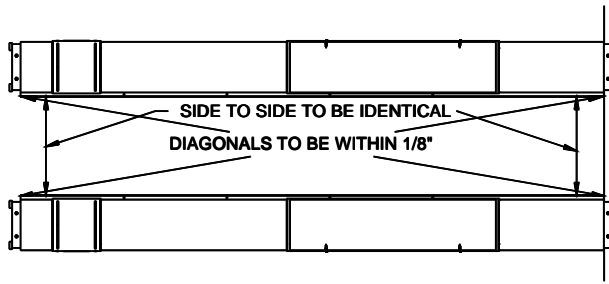

Fig 6 – Final Runway Positioning
- 9) Check the layout of the lift in the bay. **(This is the last opportunity to reposition the lift. If there is any question about where the front column anchors or power unit are going to end up, complete steps 21 - 24 first and come back to this step).** Adjust the position of the runways so the distance from power side jack rail to idler side jack rail is the same at the front and rear and the diagonal measurements from the front tip of one rail to the rear tip of the opposite rail are within 1/4", Fig 6.
- 28) Recheck the four measurements from Fig 6.